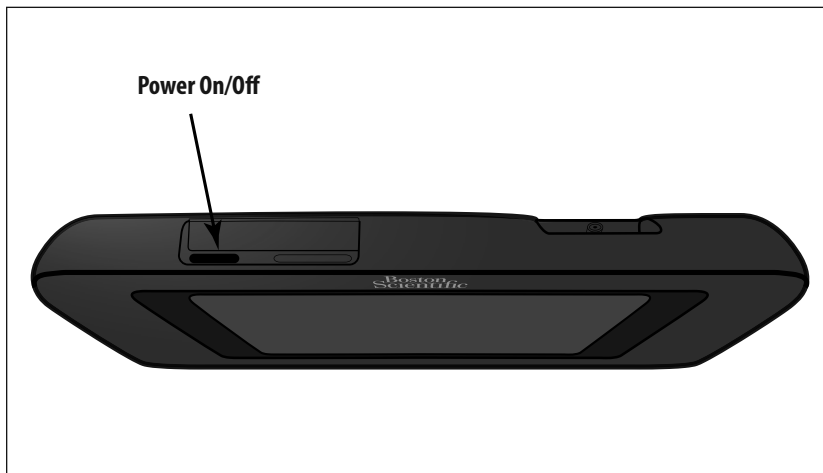

Figure 2: Turning the programmer On/Off
The programmer power button is located in the recess above and behind the left corner of the screen. Press and hold the button until the display screen is active (Figure 2).
Note: *If the programmer cannot be turned on while it is connected to AC power via the external power supply, first unplug the external power supply cord from the programmer. Press and hold the programmer power button until the display screen is active (Figure 2). AC power via the external power supply can then be reconnected.*
- The power button (Figure 2) is momentarily pressed and released
1. Press and hold the power button (Figure 2) until the System shutdown menu appears. Select Power off from the popup and confirm by pressing OK.